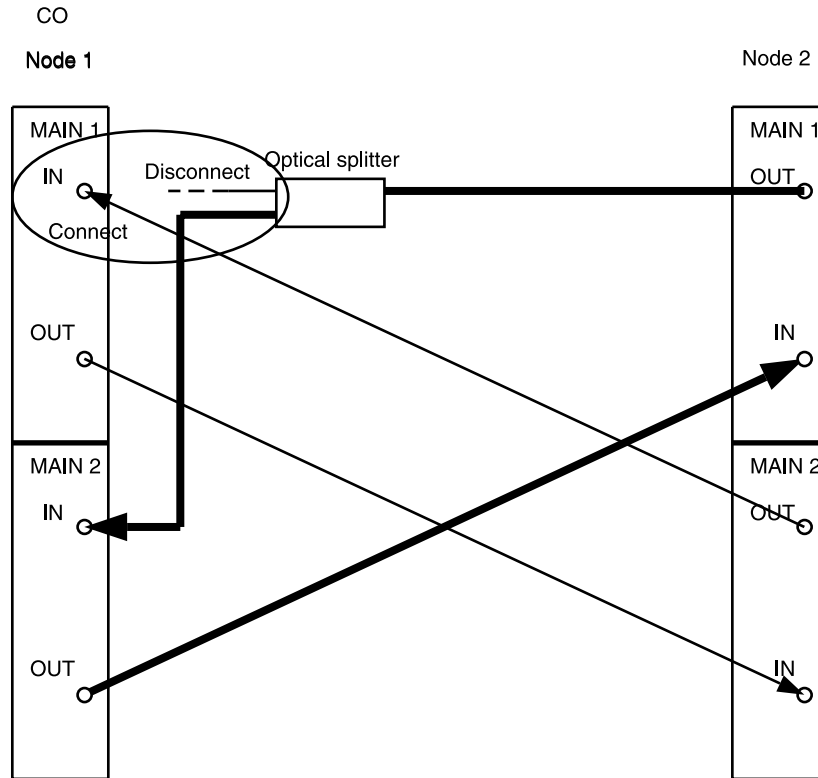

Figure 14 – DDM-2000 OC-3 Drop or Add/Drop Network to Ring Upgrade
24. At Node 1, remove optical splitter output from **MAIN 1 IN** and connect optical fiber from Node 2 **MAIN 2(P) OUT** to Node 1 **MAIN 1 IN**. (See Figure 14.)